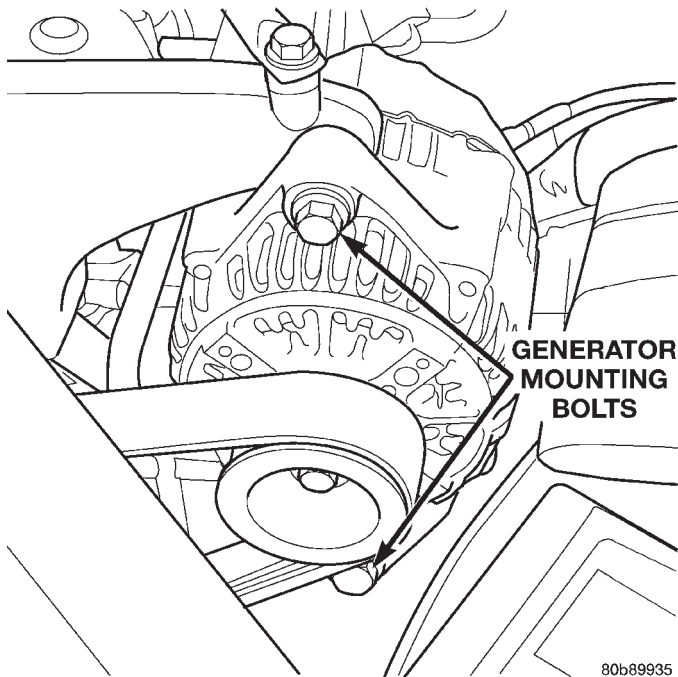

Fig. 2 Generator Mounting
(5) Remove the upper generator mounting bolt (Fig. 2).
(6) Remove the lower generator mounting bolt (Fig. 2) and remove generator from the vehicle.